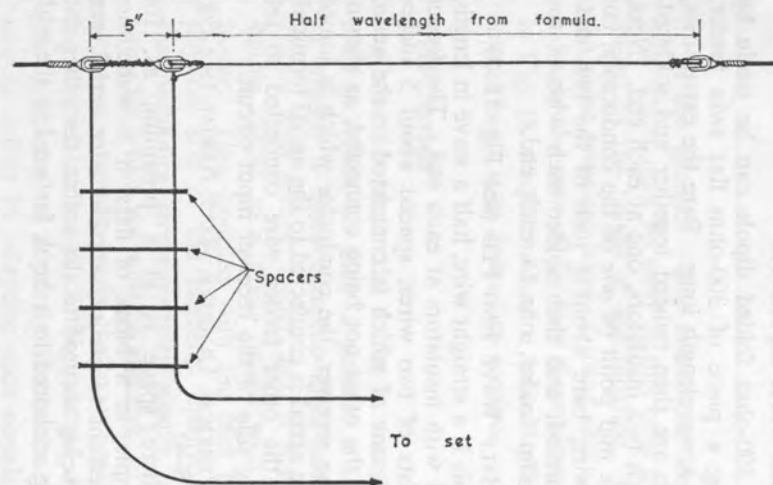

Fig. 18.3 Half wave end fed aerial.
(3) HALF WAVE END FED (see Fig. 18-3)